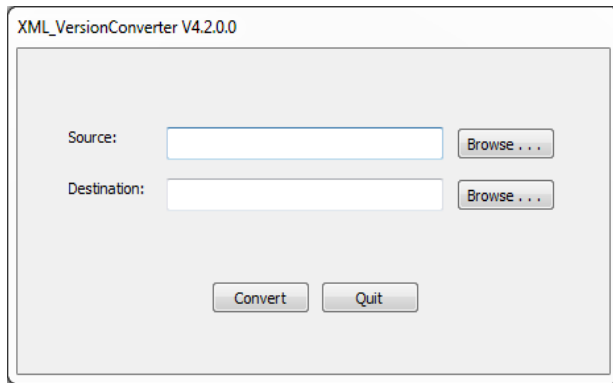

Fig. 10.12. XML Dialog Version Converter Box
3. Launch the converter and Figure 10.12 should appear.